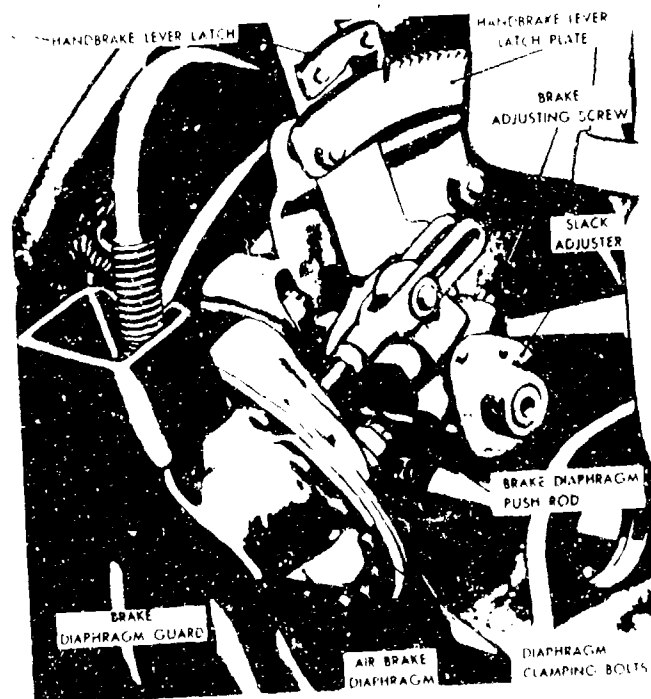

Figure 5-5. Air brake diaphragm and slack adjuster.
*g. Air brake diaphragms.* Two air brake diaphragms, one for each brake, convert the energy of the compressed air into the mechanical force necessary to operate the brake mechanisms. The air hose connection is protected by the brake diaphragm guard (fig 5-5).